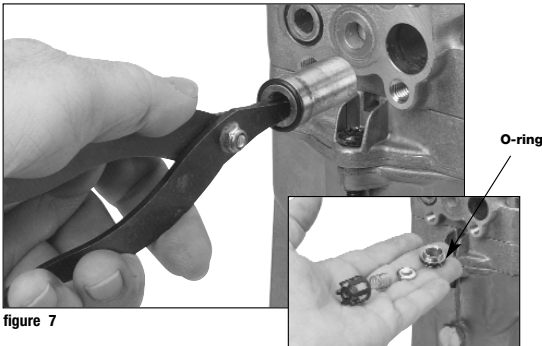

figure 7
2. Remove low-pressure check valve, including valve disk and spring, with special valve pliers. (figure 7)